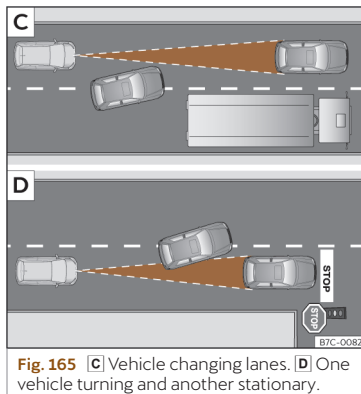

Fig. 165 **C** Vehicle changing lanes. **D** One vehicle turning and another stationary.
- Vehicles that move into your lane, a short distance from your vehicle» **Fig. 165** **C**.
The ACC may not react to stationary vehicles. If, for example, a vehicle detected by the ACC turns or moves over and there is a stationary vehicle in front of it, the ACC will not react to the second vehicle»» **Fig. 165**